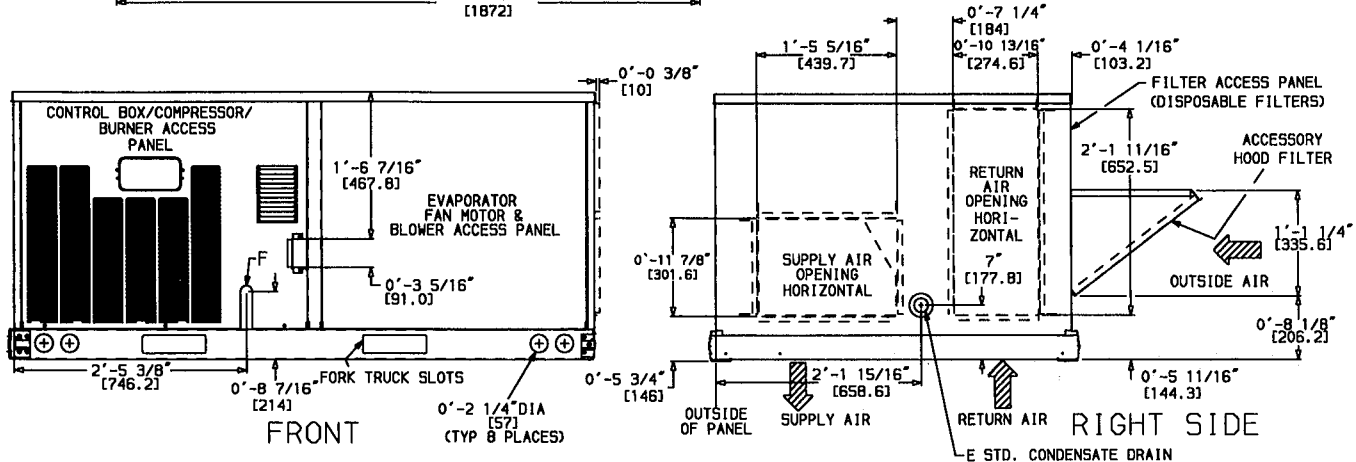

Fig. 6A - Base Unit Dimensions - 48GJ006
POSITIONING — Maintain clearance around and above unit to provide minimum distance from combustible materials, proper airflow, and service access. See Fig. 6A and 6B.
Step 5 — Install Flue Hood — Flue hood is shipped screwed to the burner compartment access panel. Remove from shipping location and, using screws provided, install flue hood in location shown in Fig. 6A, 6B, and 7.